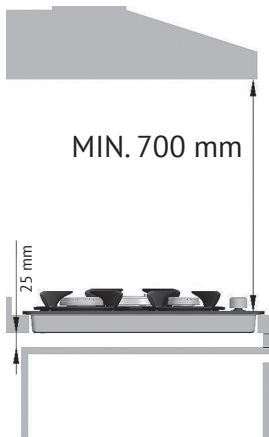

Figure 2.
- ➔ The distance between the hob sole and the partition should be at least 25 mm. (Fig. 2)
➡ The distance between the cook top and another device (e.g. kitchen hood) shall not be less than 700 mm (Figure 2).